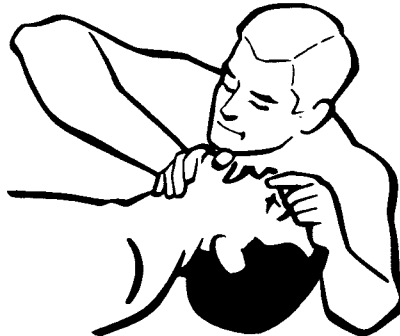

Fig 3.11 Mouth-to-mouth resuscitation
Mouth-to-mouth resuscitation. This is the most effective way of applying artificial respiration and should be used whenever possible. It is easy to apply and, since no movement of the patient's limbs is required, it avoids worsening any injuries he may have. In this method, you breathe air from your own lungs through the patient's mouth (or nose) into his lungs. The method is illustrated in Fig 3.11.
- Apply artificial respiration as illustrated in Fig 3.11.